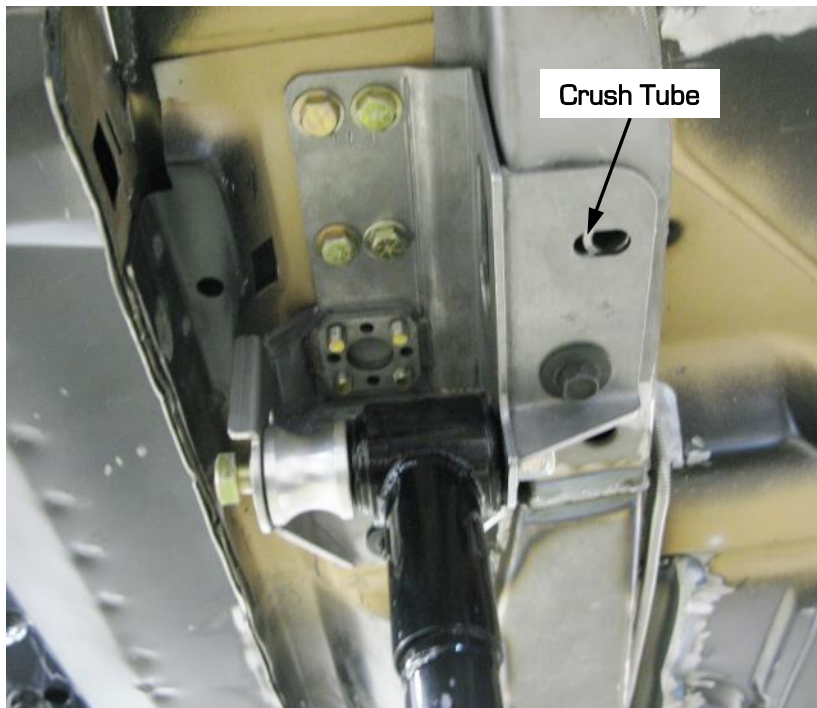

Figure 10 – Frame Rail Crush Tube
25. Position the frame rail crush tube in the frame rail and install the DSE pocket assembly into the vehicle. The DSE pockets will hold the crush tube in place so that it won't fall out. Install the 7/16"-14 x 4-1/4"L bolt through the bottom of the frame rail into the floor pan doubler (Figure 10 on the next page). If the bolt will not thread into the doubler plate, you may need to open up the bottom frame rail hole until the bolt will thread into the plate.